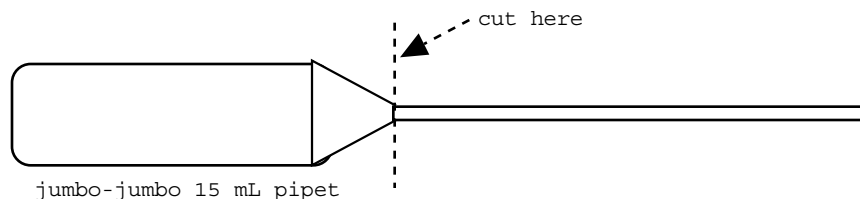

Figure 3 Where to cut a jumbo-jumbo pipet.
3. Cut the stem off of a 15 mL jumbo-jumbo transfer pipet (*Figure 3*). Discard the bulb end.